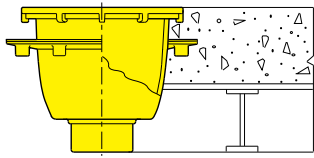
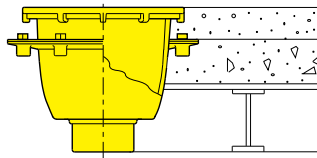

Fig. 2
Fig. 3
1) **BODY WITH ANCHORING OR SEEPAGE CONTROL FLANGE** (Fig. 2). This flange rigidly anchors the body in the concrete slab. Body is provided with holes to control the seepage which occurs due to normal separation between the concrete and the SANI-CEPTOR body. Waterproofing membranes are used in many floors on grade. They should always be used in floors located above grade. When a membrane is used, Smith flange and optional flashing clamp (Fig. 3) must be specified. To indicate, add suffix -F-C to the selected figure number.